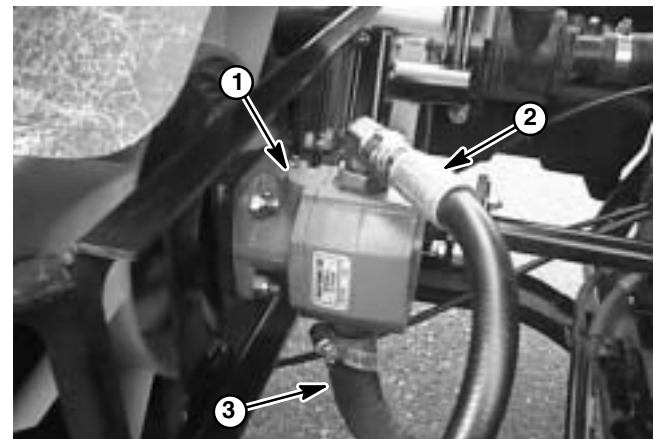

Figure 21
4. Disconnect hydraulic hoses from gear pump (Fig. 21). Install caps or plugs in hoses and pump fittings to prevent contamination and leakage of hydraulic oil.